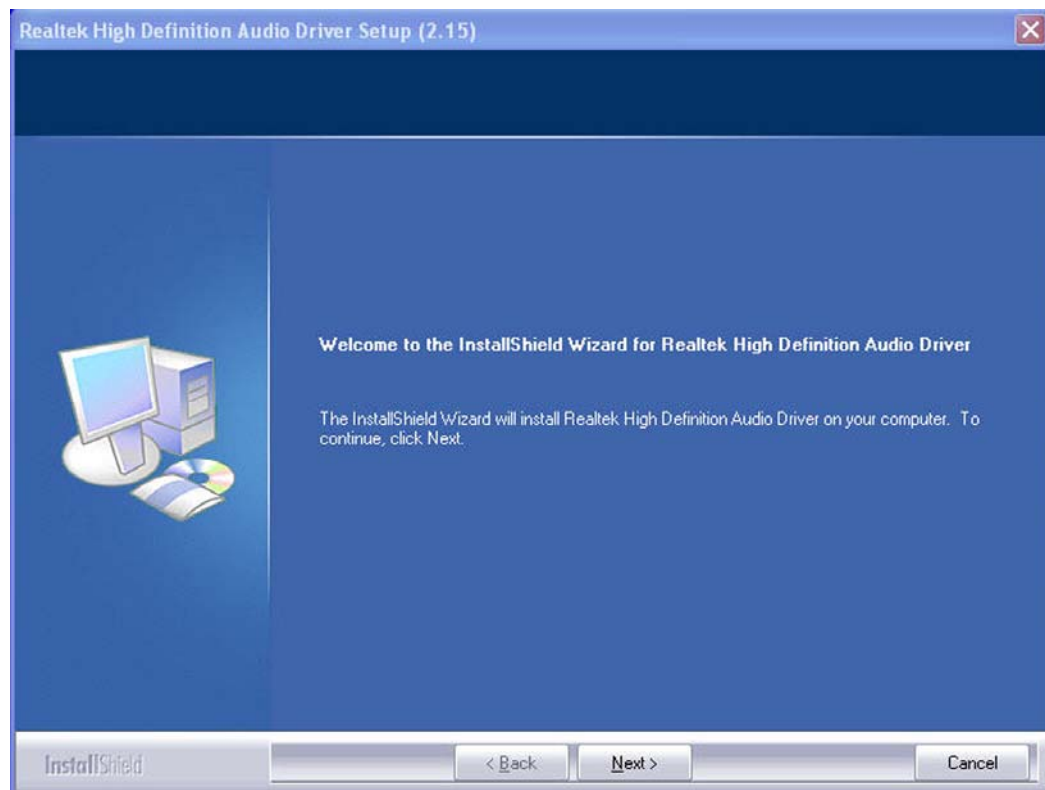

Figure 7-21: HD Audio Driver Setup Welcome Screen
Step 5: The **Welcome** screen appears. Click **NEXT**. See **Figure 7-21**.
Step 5: The Realtek Audio Setup prepares the install shield to guide you through the rest of the setup process. See **Figure 7-21**.